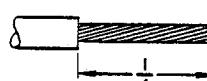

Fig. 5. Stripping dimensions
13. The cables should be stripped to the dimensions given in fig.5.